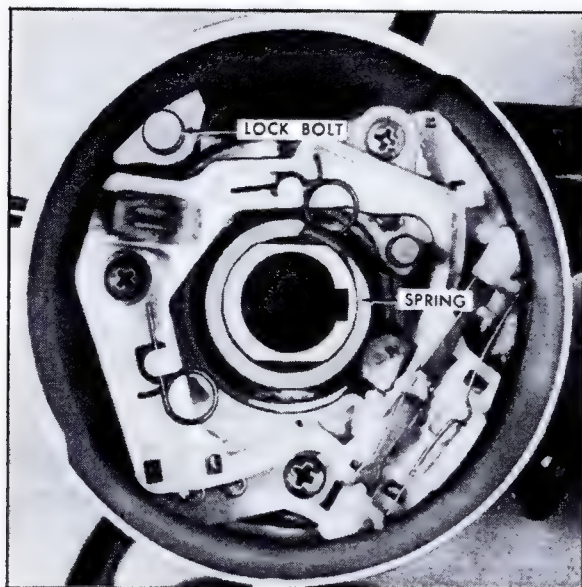

Fig. 9-46 Turn Signal Switch
10. Remove three turn signal switch mounting screws, Fig. 9-46.
11. Position turn signal switch in neutral position and install three screws securing switch to upper housing, Fig. 9-46. Tighten screws to 35 inch-pounds.